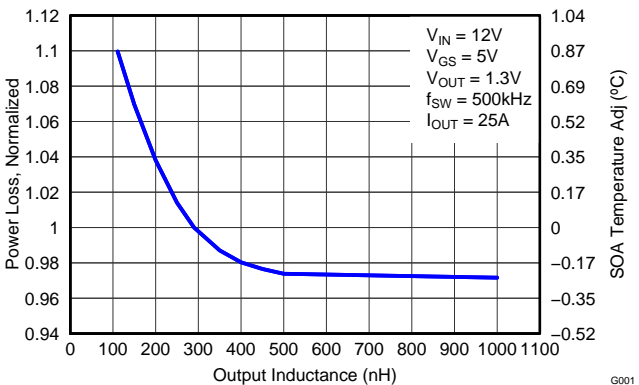

Figure 8. Normalized Power Loss vs. Output Inductance
- Normalized Power Loss for output inductor ≈ 1.03 (Figure 8)
- SOA adjustment for output inductor $\approx 0.3^\circ\text{C}$ (Figure 8)